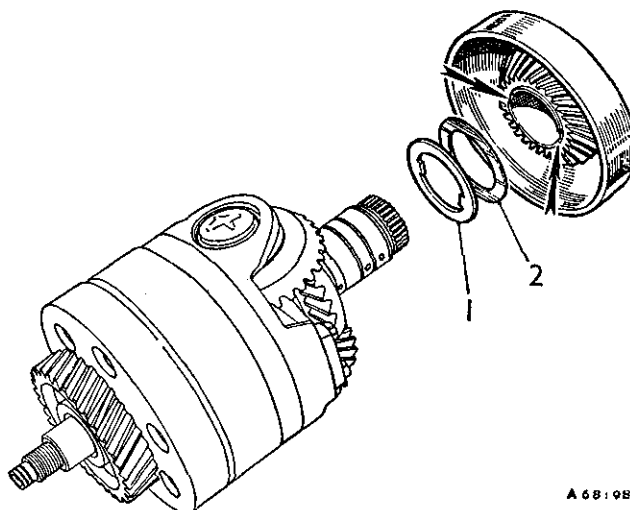

Fig. Fa.46
- (26) Assemble the third speed reaction gear with its bi-metal washer fitted with the white metal face towards the reverse output gear (see Fig. Fa.46) and with the steel shim(s) located between the bi-metal washer and the gear.
Retain each washer and shim in position with petroleum jelly and refit the assembly to the gear train (see Fig. Fa.46).